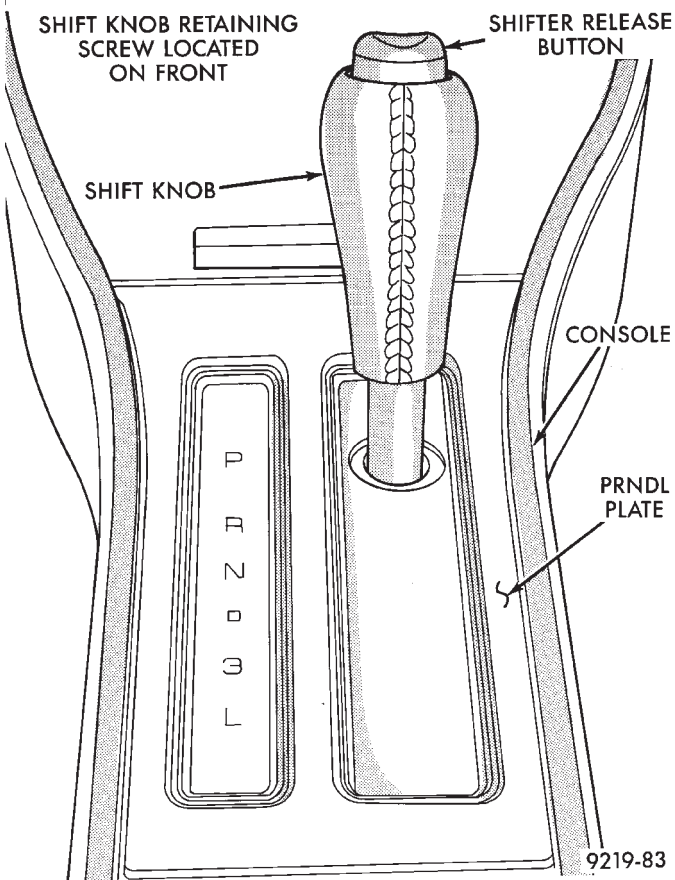
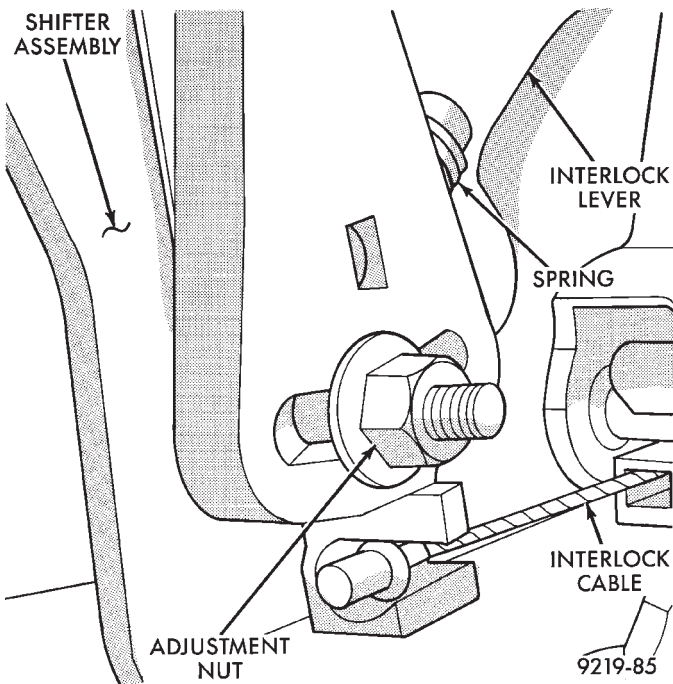

Fig. 9 Shift Knob And PRNDL Plate Removal
Fig. 10 Interlock Adjusting Nut
(7) Remove shift knob to shifter retaining screw and remove knob from shifter assembly. Remove PRNDL plate from the console assembly (Fig. 9).
(8) Remove center console assembly. Refer to Group 23 Body, in this service manual for the appropriate procedure for the body style being serviced.
(9) Loosen but do not remove the interlock lever adjusting nut (Fig. 10) on the shifter assembly.
(10) Remove interlock cable from interlock lever on the shifter assembly (Fig. 10). Remove interlock